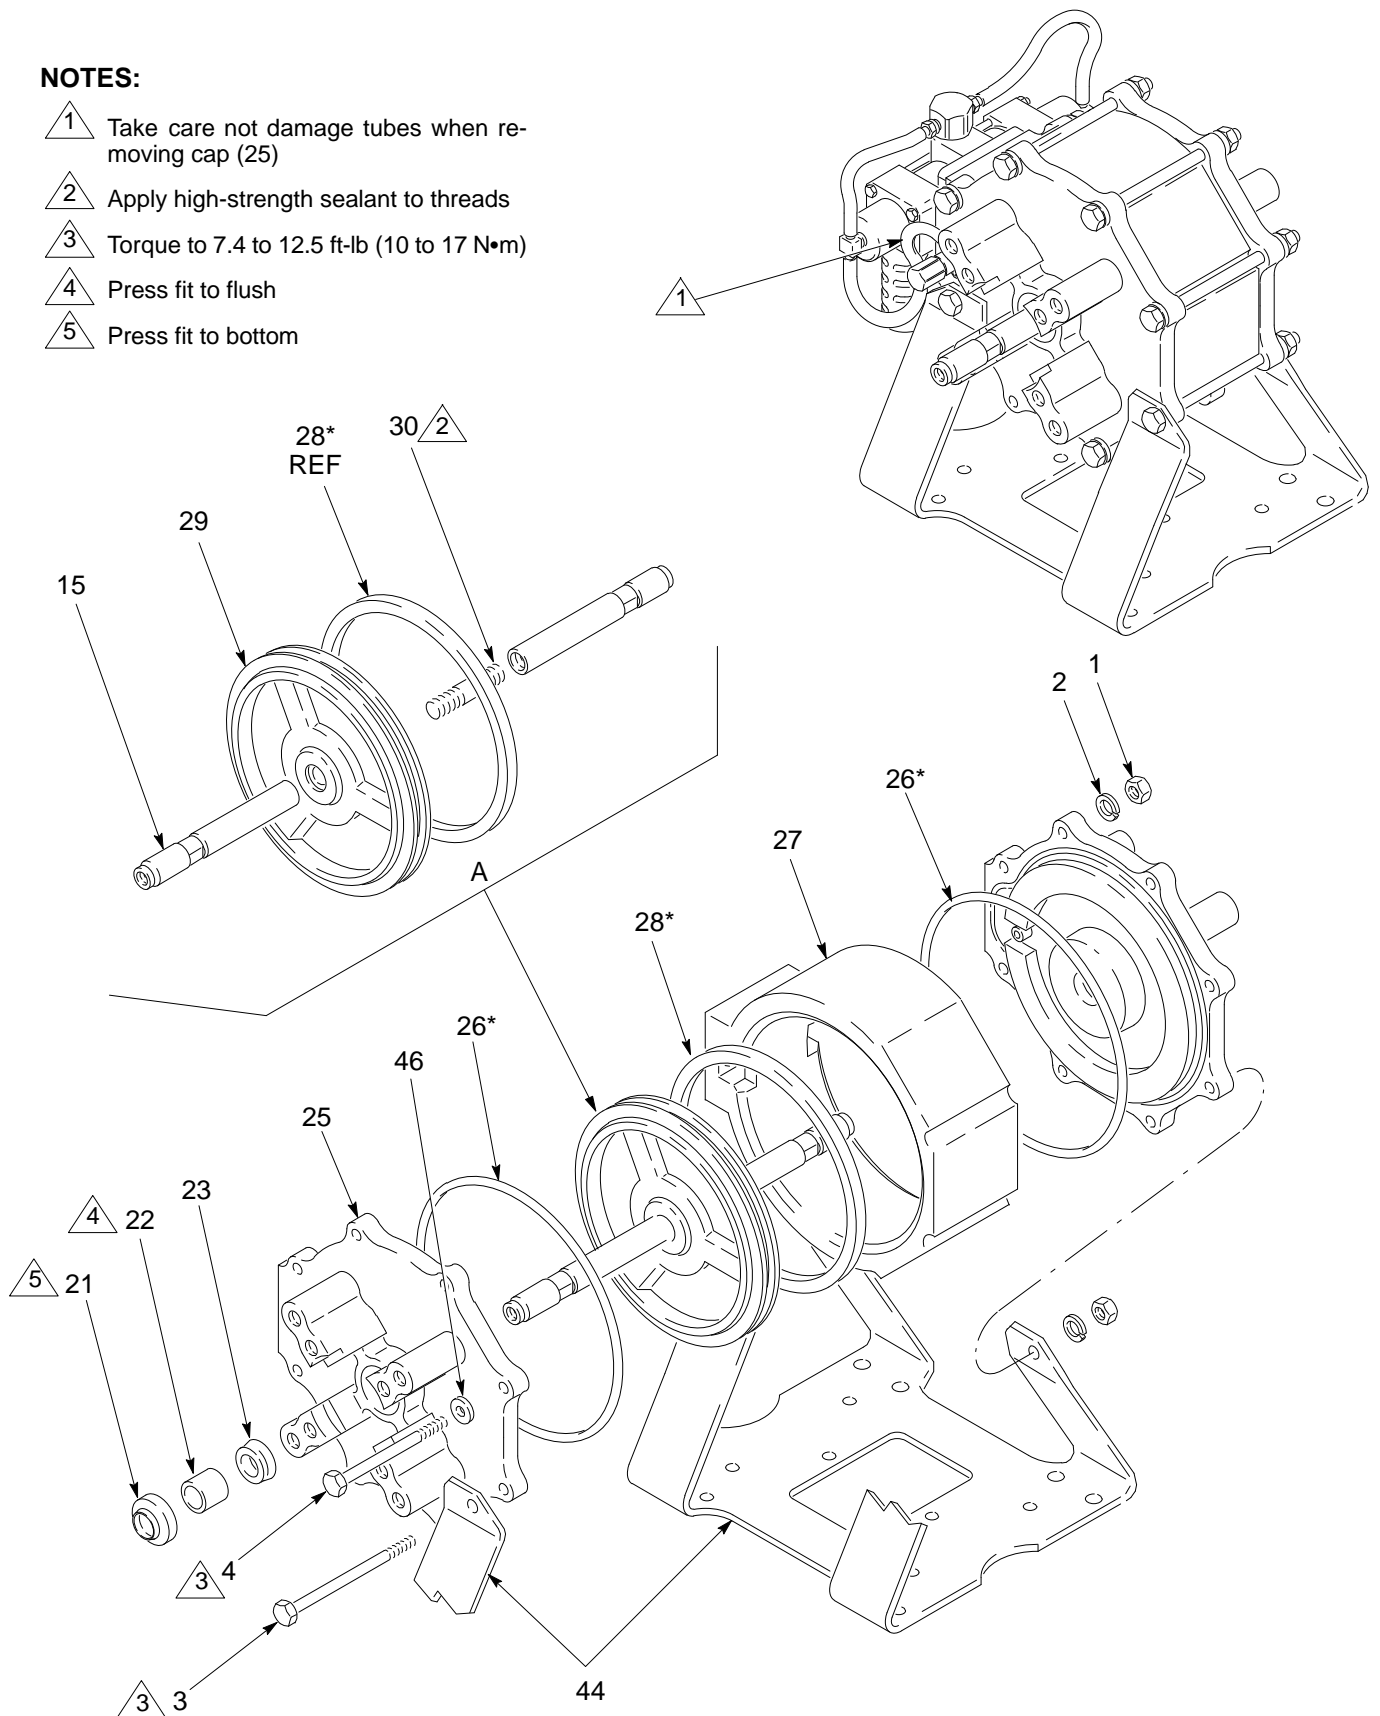
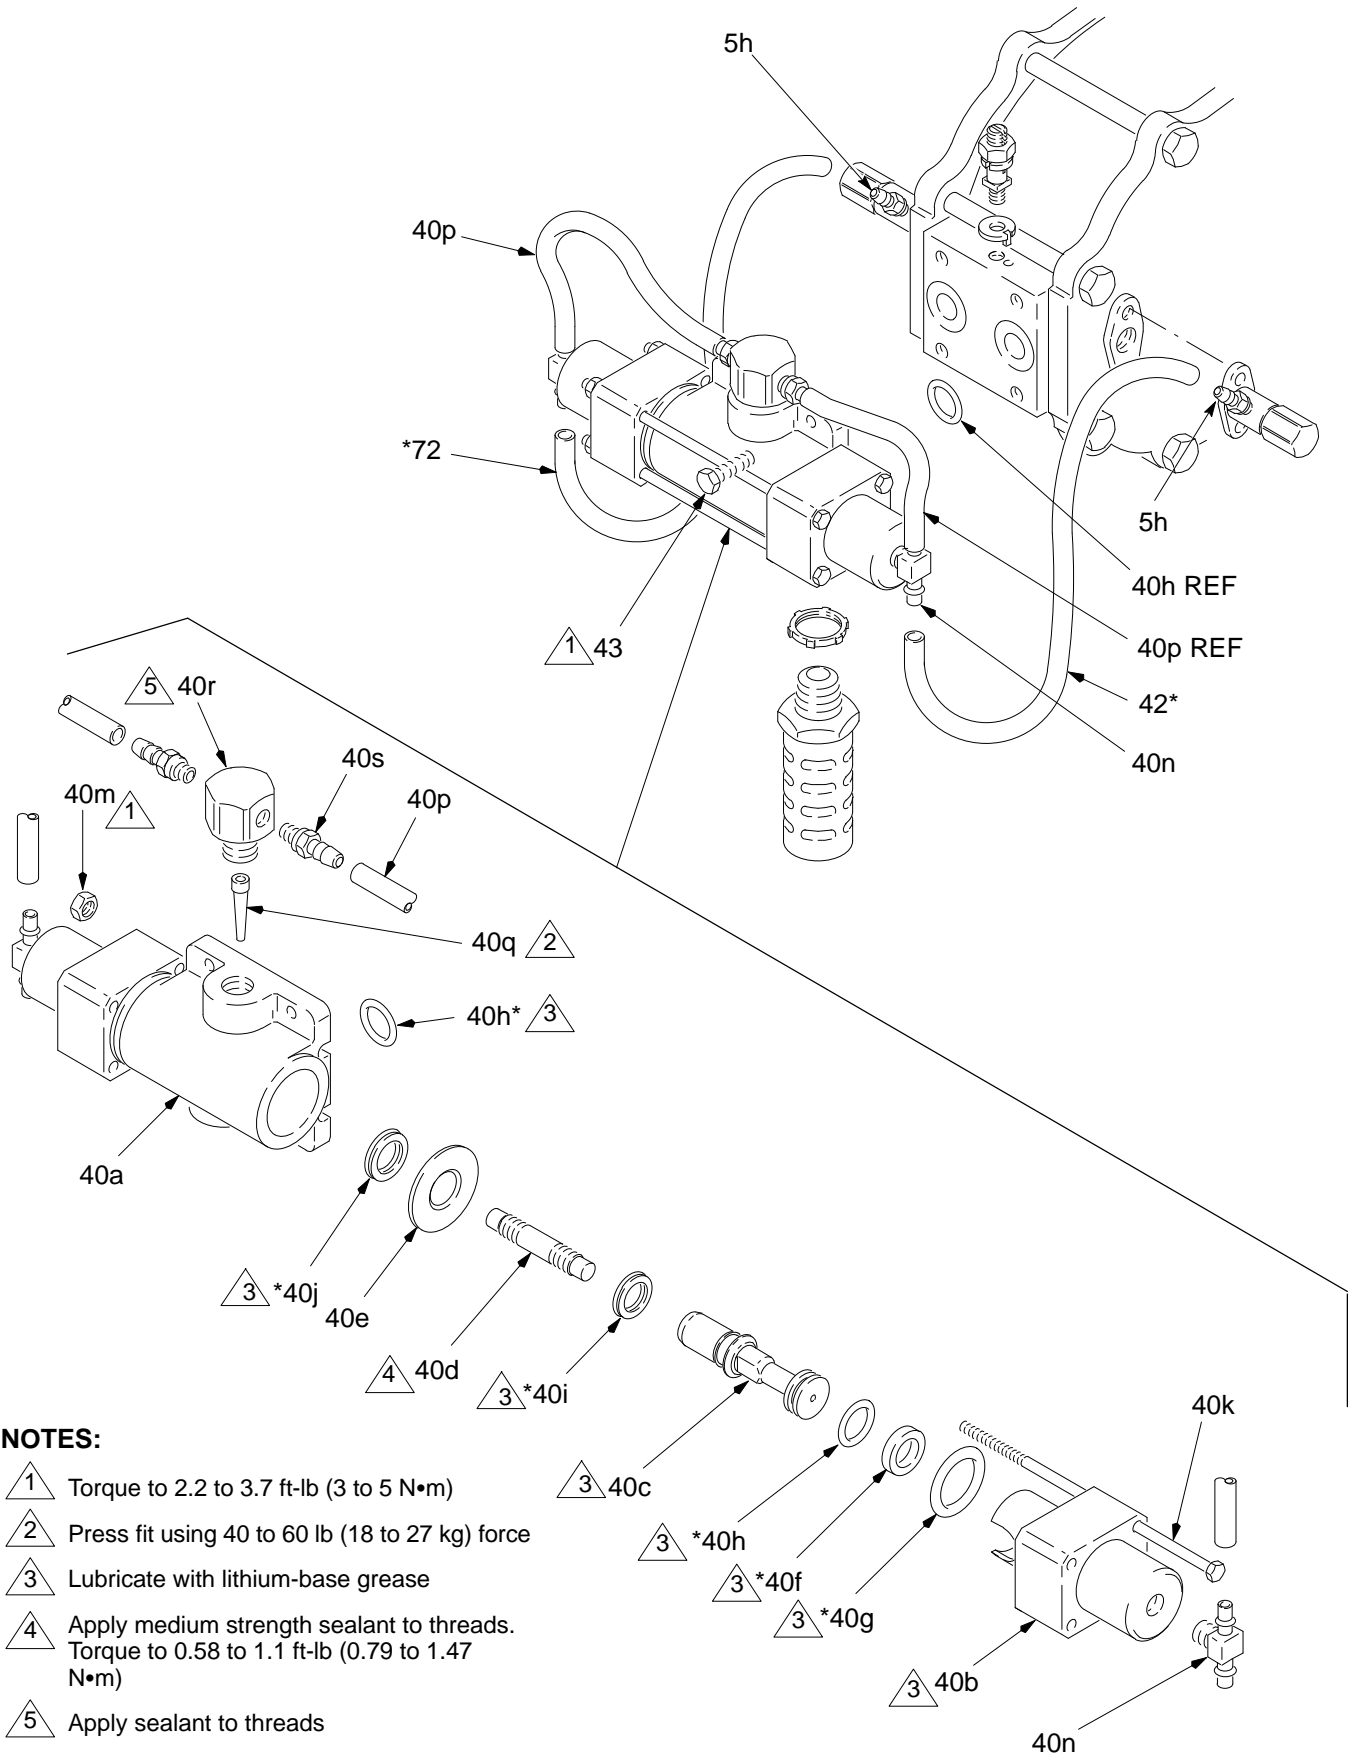

Fig. 7
Fig. 8
3. Remove the screws (3 & 4), washers (46), nuts (1), and lockwashers (2) from the cylinder cap (25). See Fig. 7.
4. Remove the pump from the mounting bracket (44).
5. Remove the cylinder cap (25) from each end of the air motor. If the hoses aren't disconnected or the pilot valves removed, be careful not to pull on the hoses when removing the caps.
1. Apply lithium base grease to all packings, seals, and the inside of the air motor cylinder (27) before assembling.
2. If the piston shafts (15) were removed from the piston stud (30), apply high strength sealant (such as Loctite®) to the threads of the piston stud, and assemble as shown in Fig. 7.
3. Install the quad ring (28*) in the groove on the piston (29). Install the piston assembly (A) into the air motor cylinder (27).
4. Install a u-cup (23*) into each of the cylinder caps (25). The lips of the u-cup must face in, towards the center of the pump, as shown in Fig. 8.
5. If the bearings (22) were removed, install a bearing into each cylinder cap (25). Press fit the bearing to flush, using an arbor press.
6. Install a shaft wiper (21) into each cylinder cap (25) with the brass part of the wiper facing out, away from the center of the pump, as shown in Fig. 8. Carefully press the wiper into place, taking care to avoid damaging the brass piece.
7. Install an o-ring (26*) into the groove in each of the cylinder caps (25). Slide a cylinder cap (25) onto each end of the air motor. Align flat edges with air valve.
8. Secure the mounting bracket (44) and cylinder caps (25) on the pump with the screws (3 and 4), washers (46), nuts (1), and lockwashers (2). Torque the screws oppositely and evenly to 7.4 to 12.5 ft-lb (10 to 17 N•m).
2. Cut a small slit in the tube ends (72*, 42*, 40p*) and disconnect them from the pilot valve fittings (5h), air valve tees (40n), and barb fittings (40s). See Fig. 8.
5. If the air filter (40q) needs cleaning or replacement, unscrew the filter housing (40r) and remove the filter. To clean them, soak the filter housing and the filter in solvent until they are clean. Blow them dry with low pressure air [under 30 psi (207 MPa, 2.1 bar)]. Press fit the filter into the housing, using 40 to 60 lb (18 to 27 kg) of force. Refer to Fig. 8. Apply sealant to the filter housing threads and turn it into the center housing (40a).
9. Install the air valve on the pump with the four cap screws (43). Torque them alternately and evenly to 2.2 to 3.7 ft-lb (3 to 5 N•m).
10. Connect the new tubes (72*, 42*, 40p*) to the pilot valve fittings (5h), air valve tees (40n), and barb fittings (40s), as shown in Fig. 8.